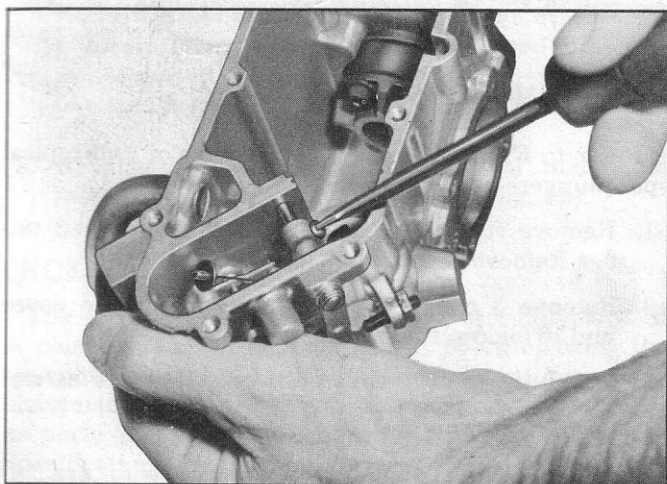

Fig. 57—Loosening Ratio Lever Retaining Screw
4. Loosen screw retaining ratio lever in position (fig. 57), slide ratio lever pivot shaft from meter body. Remove ratio lever.